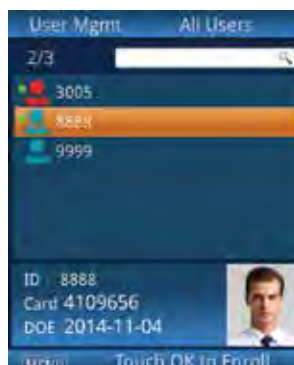

Fig 3.03-1
- Select the user that needs to re-enroll by using the **▲** or **▼** keys to search the list or by entering the ID# of the user. (Fig.3.03-1)